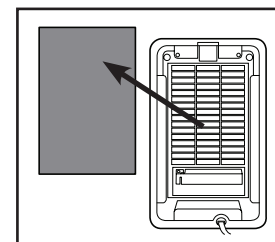

Figure 3
2. A filter date wheel is also built into the rear of the unit to track your filter changes. Simply set the wheel 6 months ahead from when it is replaced as a reminder. The wheel is marked with the months of the year (Figure 3).